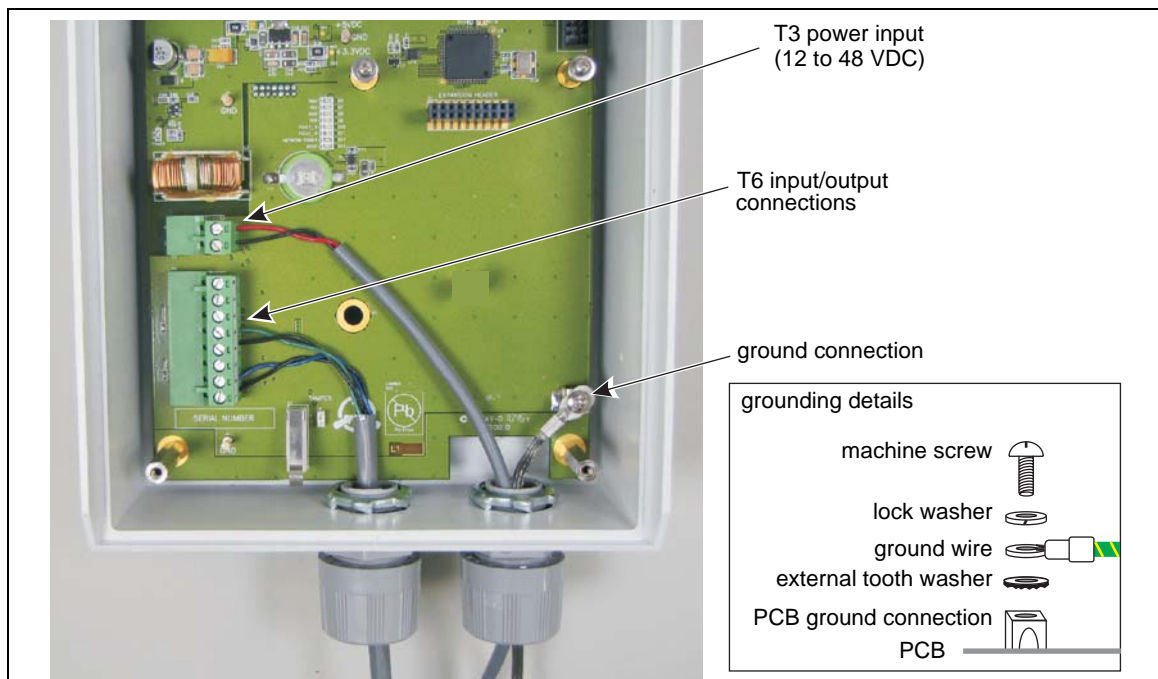
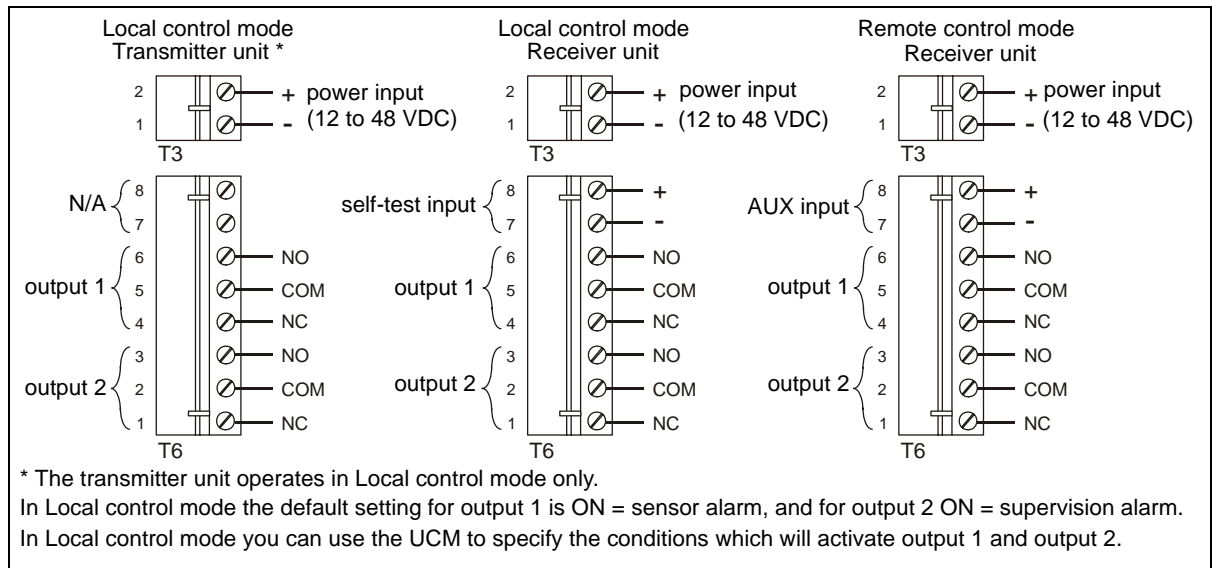

Figure 16 Relay output, power input and ground connection wiring (Rx & Tx)
Figure 17 Transmitter/receiver wiring connections
The μ ltraWave wiring connections are made on removable terminal blocks. The screw terminals accept wire sizes from 12 to 24 AWG, with a 6.4 mm (0.25 in.) strip length. Remove the terminal blocks to make the wiring connections. Reinstall the blocks after the connections are complete, and verified. The DC power input is made on T3 and the input/output connections are made on T6. The receiver's auxiliary (AUX) input is available when using Remote control mode (network alarm data communications). The receiver's self-test input is available in Local control mode (relay output alarm signaling). The transmitter unit does not include an input. Refer to Figure 16 for an illustration of μ ltraWave relay output wiring and ground connection details. Figure 17 illustrates the input output wiring connection details for both Local control mode and Remote control mode.
T6 connects to output 1, output 2 and an auxiliary (AUX) or self-test input (see Figure 17 for connection details). In Local control mode, the two outputs can be configured via the UCM to report user-specified alarm conditions (see Alarm data communications on page 11). A momentary switch input to the self-test input activates an electronic test of the receiver unit. Self-test activation requires a normally open, unsupervised momentary switch input. The momentary switch input must be closed for a minimum of the time specified in the Filter Window parameter (via the UCM). See Table 7: for example input wiring diagrams and supervision resistor values.
The transmitter unit operates only in Local control mode. T6 connects to output 1 and output 2 (see Figure 17 for connection details). You can use the UCM to specify the conditions that will activate the two outputs (see Alarm data communications on page 11). The transmitter unit does not include an input.
3. Remove the terminal block from T6, make the wiring connections, and then replace the terminal block (see Figure 16).
2. Connect the ground wire to the ground lug on the transmitter/receiver PCB (see Figure 16).
- At each μ ltraWave unit, splice the power cable to a lighter gauge pigtail that is approximately 30 cm (12 in.) long. Connect the negative lead to T3-1 (-) and connect the positive lead to T3-2 (+) (see Figure 16).
To use a local DC power supply, the power supply must be outdoor rated and installed in its own weatherproof enclosure. The local supply can be mounted on the same post as the μ ltraWave unit to keep the wire runs to a minimum. Connect the negative lead to T3-1 (-) and connect the positive lead to T3-2 (+) (see Figure 16).